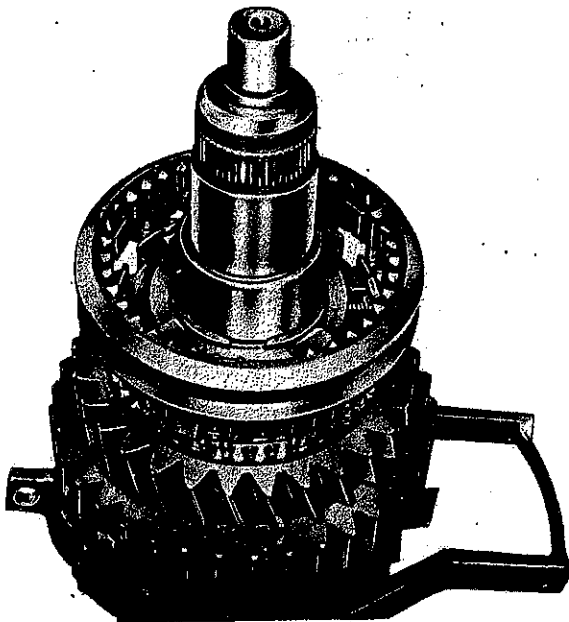

Fig. 33
14. Position sliding sleeve (408) on synchronizer (416) (Fig. 33). Ball pins should be able to engage with the three teeth cutout lowest.